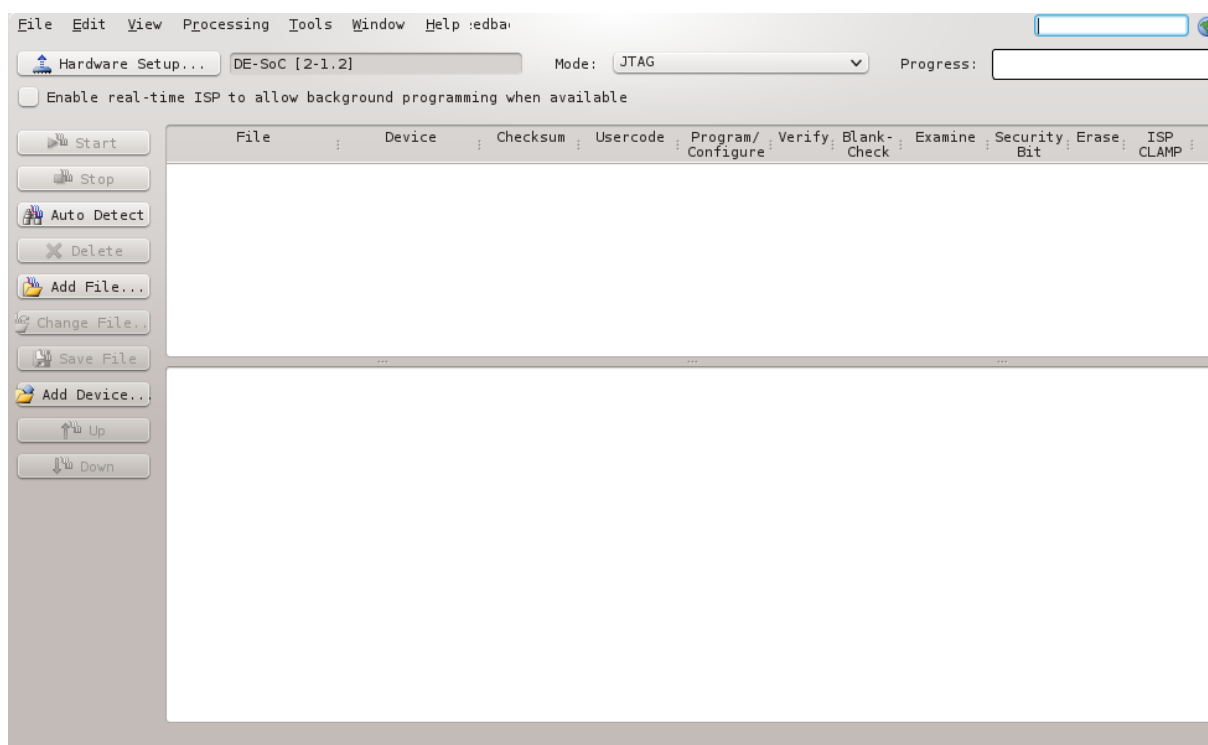

Figure 8-15. Quartus II Programmer
36. Choose the “Auto Detect” button on the left of Figure 8-15, then choose “5CSEMA5”, as shown in Figure 8-16.